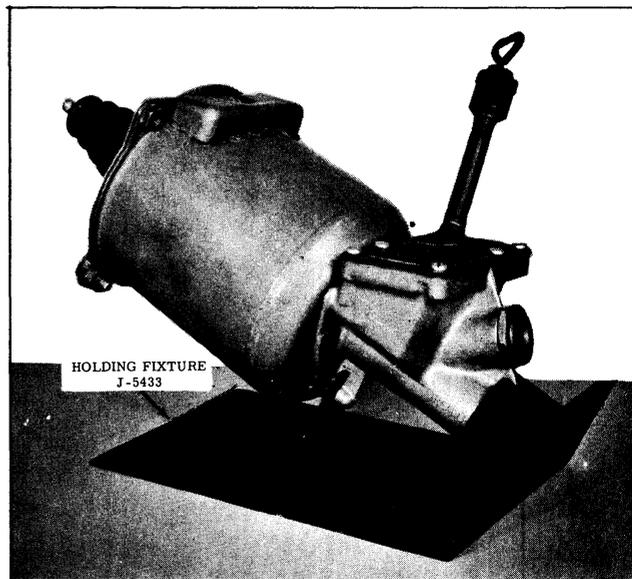

Fig. 7-41 Power Brake Holding Fixture
2. Mount unit in holding fixture J-5433, if available. (See Fig. 7-41) If holding fixture is not available, clamp master cylinder end of unit in a vise.